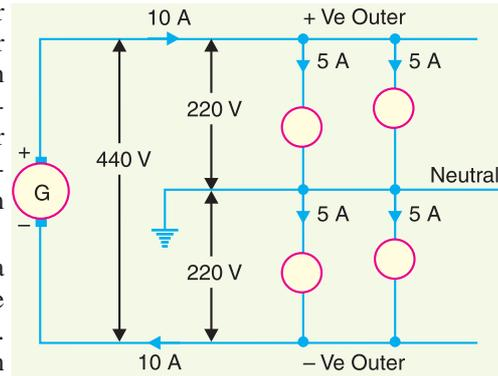

Fig. 13.48
Fig. 13.48 shows the general principles of a 3-wire d.c. system. It consists of two outers and a middle or neutral wire which is earthed at the generator end. The potential of the neutral wire is \*half-way between the potentials of the outers. Thus, if p.d. between the outers is 440 V, then positive outer is at 220 V above the neutral and negative outer is 220 V below the neutral. The current in the neutral wire will depend upon the loads applied to the two sides.
- If the loads applied on both sides of the neutral are equal (*i.e.* balanced) as shown in Fig 13.48, the current in the neutral wire will be zero. Under these conditions, the potential of the neutral will be exactly half-way between the potential difference of the outers.